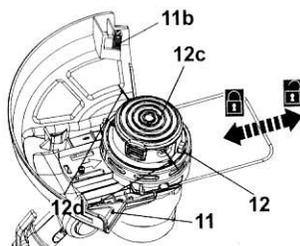

Fig. 21
1. Turn trimmer head (12) upside down.
2. Press the release push button (12g) while pulling on the trimming lines (12d). The trimming spool (12c) will release the trimming lines (Fig. 21).